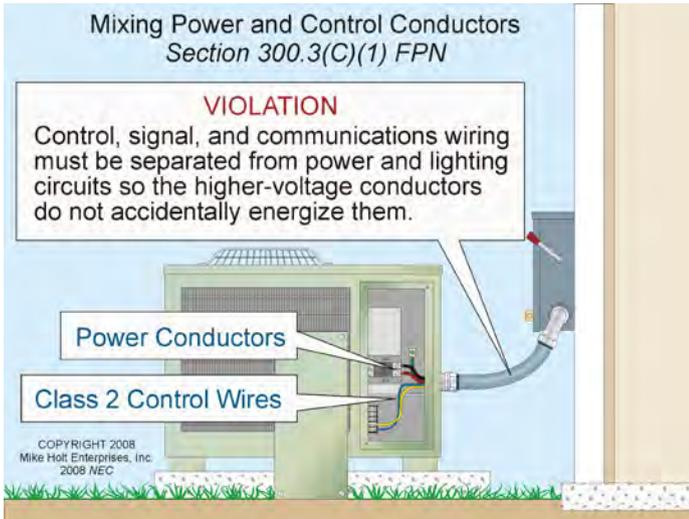

Figure 300-5
- Class 1, Class 2, and Class 3 Control Circuits, 725.48 and 725.136(A). **Figure 300-5**